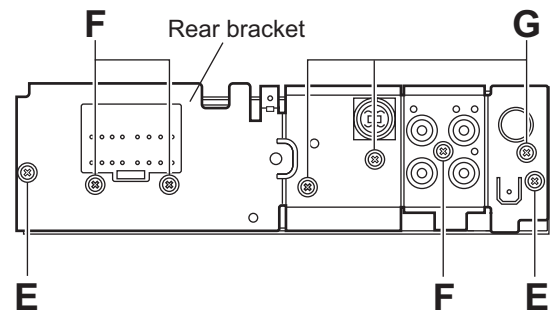

Fig.6
2.1.5 Removing the rear panel (See Fig.6)